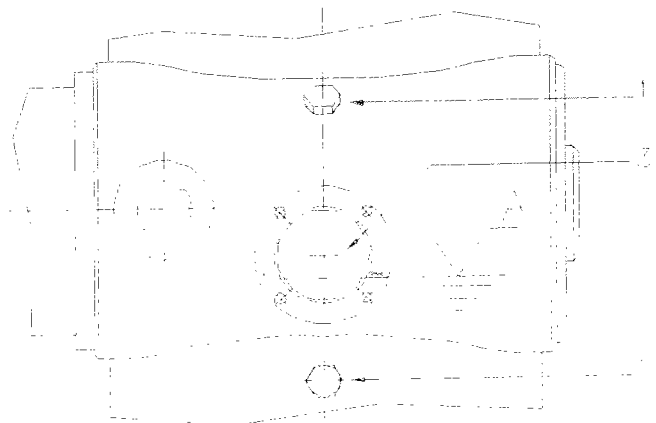

Figure 5.3
***The separator is delivered without lubricating oil.*** Before the first starting it is necessary to fill the gear housing with the lubricant of separator equipment. After the filling, the oil must be at a level just over the mark on the sight glass (fig. 5.3). During operation, the oil level has never to fall below the mark.